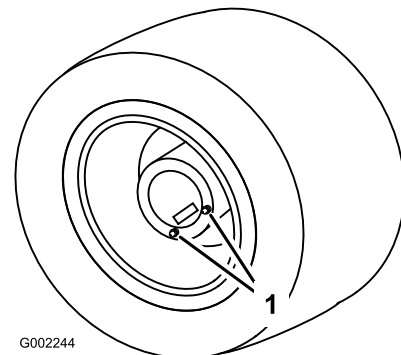

Figure 61
1. Position the sprayer on a level surface with the rear wheels positioned for draining as illustrated in Figure 61.
3. Place a pan under the drain plugs and remove them from the wheel (Figure 61).